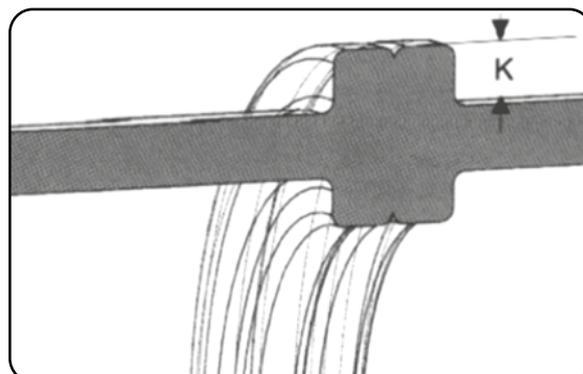

Figure 6: Cross section of beads
The joining pressure (P_3 -interfaced pressure) has to be kept during the cooling time. After process, a regular double bead must appear. The bead size shows the regularity of welding. Different beads could be caused by different MFR (melt flow rate) of the pipes. K must always be larger than 0 (see figure 6). Minimum time (T_5) for this phase is given at Table 1, column 5.
19. After joining with pressure 0.15 N/mm^2 , a bead must exist. According figure 6, K has to be > 0 on every section